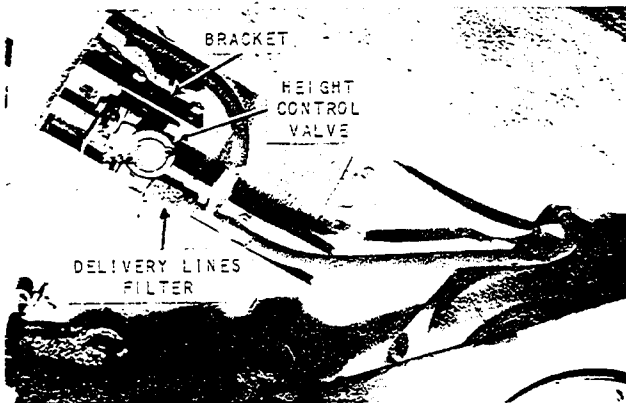

FIGURE 3 - FRONT
When the actuating lever of the valve is in the horizontal or neutral position as shown in Figure 3, the passages through the valve are closed off and are sealed in the air springs. When the actuating lever is moved upward, the valve admits air to the air spring, and when the actuating lever is moved downward, the valve exhausts air from the springs. In this manner, the control valve, as it is subjected to variations in the dimensional relation between vehicle body and axle will compensate for such variations by increasing or decreasing the air pressure in the air spring.
**OPERATION** When the actuating lever is in the position as shown in Figure 3, the inlet and exhaust valve of the control valve are normally in a lap position and air pressure is held at a constant pressure in the air spring. If the lever is moved downward, the cam action moves the plunger downward so that the exhaust seat at its upper end moves away from the exhaust valve and the air pressure in the air spring is reduced as some of the air in the air spring is exhausted through the exhaust drilling in the plunger to atmosphere between the exhaust boot and the base of the control valve. The exhaust capacity is determined by the orifice in the delivery port of the control valve body and the orifice in the plunger. Total exhaust travel of this valve is 5" from the horizontal as measured at the end of the actuating lever arm.